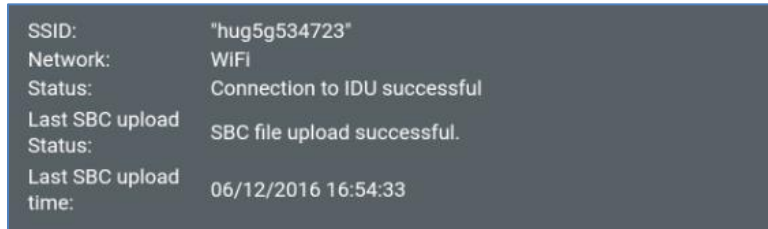

Figure 28: SBC file upload success
- If the modem's current SBC file is older than the one you are uploading, OASIS will indicate the SBC file correctly updated. See Figure 28.